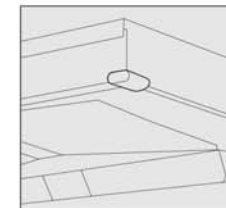

Fig.4
- If you install the range hood matching with cabinet, then exchange Step (4) and Step (5).
10. Install anti-collision accessories, firstly remove the double faced adhesive tape (see Figure 3), then stick the anti-collision accessories to the corner of the smoke exhaust (see Figure 4);